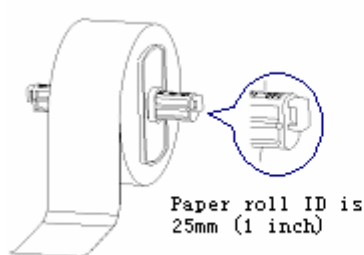
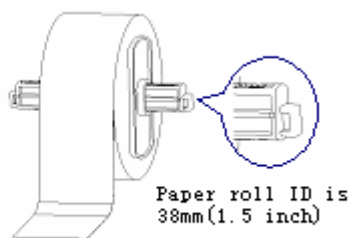

Figure 2.4.5
Figure 2.4.6
- 5) Paper roll has two sizes of I/D: 25mm (1 inch) and 38mm (1.5 inch). When paper roll ID is different, the loading method of paper holder into paper room will be different. Operation method is as below (See figure 2.4.5 and figure 2.4.6).